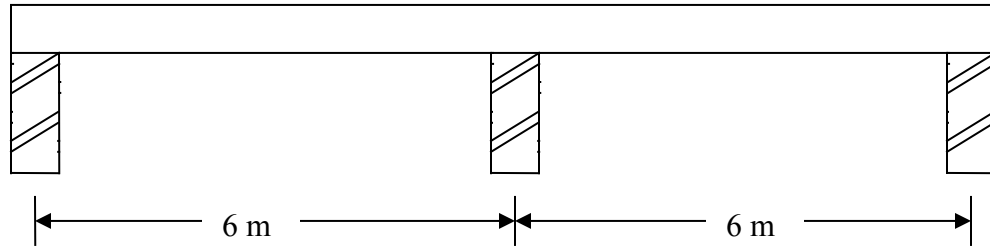

Figure 1
- (c) Design a continuous beam for superimposed dead and live loads of 12 kN/m and 14 kN/m respectively. Use M₂₀ concrete and Fe₂₅₀ steel. See Figure 1. (Assume wall width 375 mm).